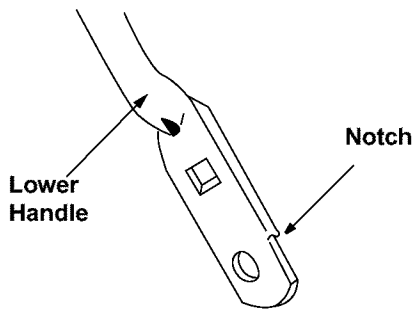

Figure 16
5. Turn the lower handle around so the notch on the bottom of the lower handle is facing forward as shown in Figure 16 . Reassemble, placing the bottom holes in the handle over the weld pins in the handle mounting bracket.